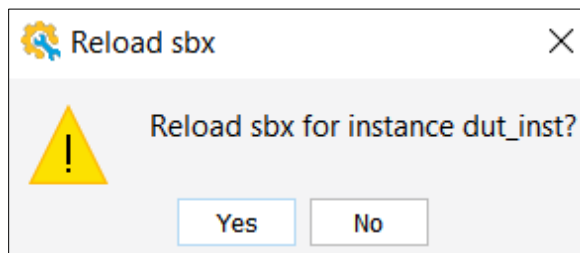
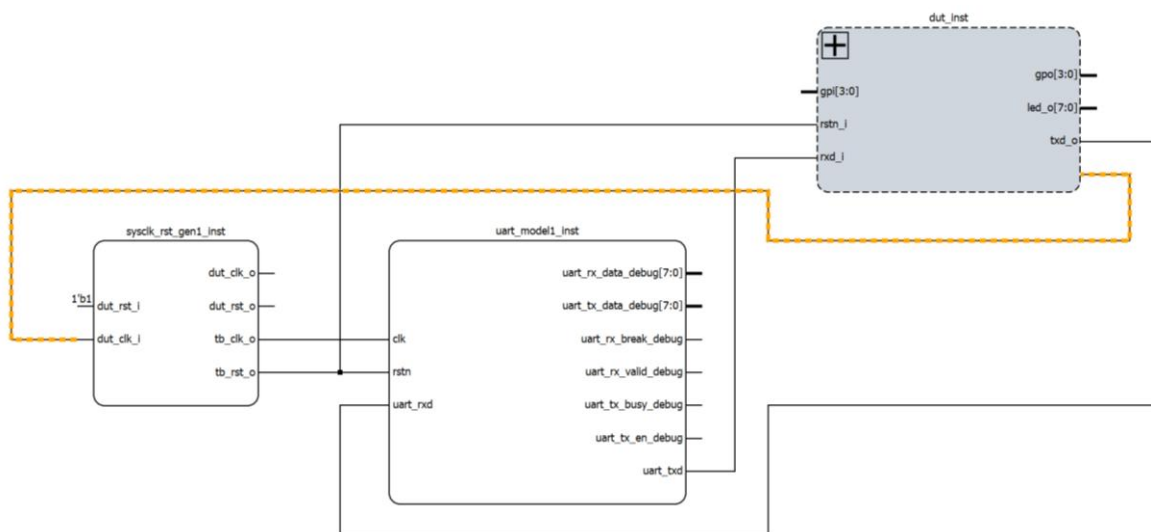

Figure 6.2. Reload sbx
Figure 6.3. Verification Project Schematic
3. Reload dut_inst by double clicking on it. The **Reload sbx** window displays, as shown in Figure 6.2. Click **Yes** to continue. Figure 6.3 shows the verification project schematic.